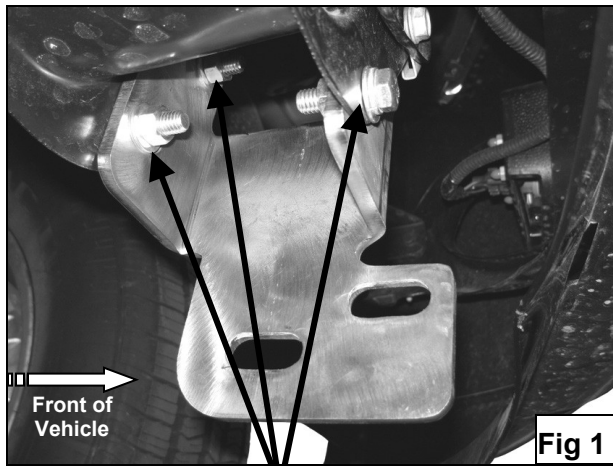

Fig 1
4. Locate the three factory holes in the driver side body mount channel (**Figure 1 & 2**).
5. Position driver side Frame Bracket into body mount channel. **NOTE:** "U" shaped mounting tabs on the Bracket should be facing the inside of the vehicle (**Figure 1 & 2**).
6. Partially mount Bracket to body mount channel using the included (3) 10mm x 30mm Hex Head Bolts, (3) 10mm Hex Nuts, (3) 10mm Lock Washers, and (6) 10mm Flat Washers (**Figure 1 & 2**).